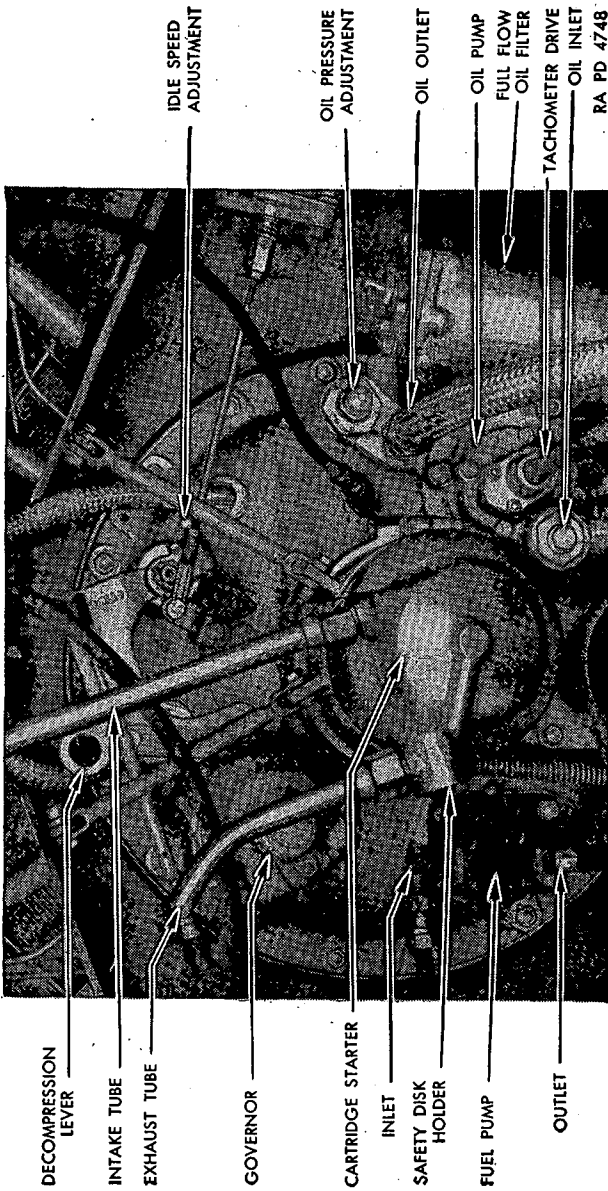

FIGURE 38.—Accessory case, Guiberson T-1020, series 4.
64. Accessory case (fig. 38).—The accessory case is an aluminum alloy casting, attached to the rear crankcase, and contains the entire gear train. Standard SAE flange mountings are provided for the starter, generator drive, and fuel supply pump. The accessory case also carries the oil pump, oil pressure relief valve, throttle control shaft, outlet oil connections, and engine vent holes.
b. Replacement.—(1) To replace oil pump assembly:
1. Remove nuts from studs of filter body and lift filter element out of body. This element is easily damaged and should not be dropped or roughly handled (fig. 38).
(3) After 100 hours of operation, replace the breech and starter assemblies.
c. Replace starter assembly.—(1) Disconnect intake and exhaust tubes at starter (fig. 38).
(2) Loosen clamp bolt and nut on starter.
(3) Remove bolts and nuts from clamp end of support arms.
(4) Remove nuts from studs on accessory case holding starter to accessory case.
(5) Remove starter.
(6) To install starter, proceed in reverse order, adjusting tension on support arms by correctly locating the clamp around the body of the starter.
d. Replace breech assembly.—(1) Remove fan guard screen (see par. 60a(7)).